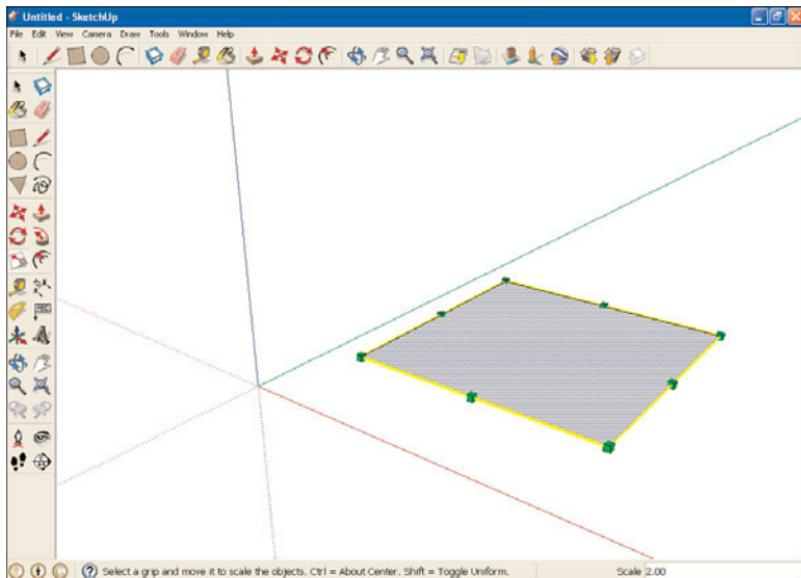

FIGURE 8.11 A newly resized rectangle.
9. Release the mouse button. When you do, the rectangle is fixed in place at its new size, as shown in Figure 8.11.